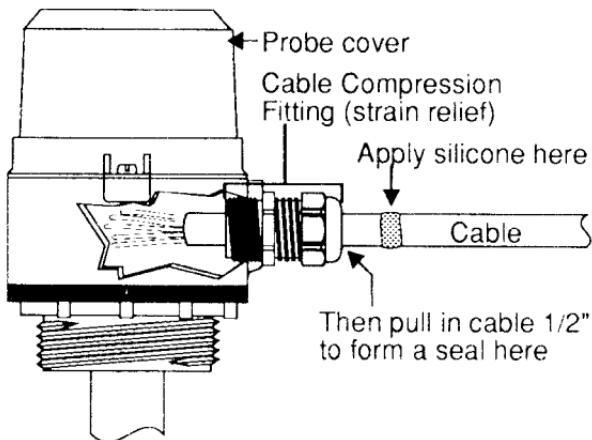

Figure 4.5 Installing A Cable Compression Fitting
**Note:** A cable compression fitting, supplied in the Scully Installation Kit, should be used wherever the cable run enters or leaves the On-Board Control Unit or a probe holder. See Figure 4.5. If you do not use the supplied fittings, you must use a quality 1/2" NPT, water tight strain relief, properly sized for the cable O.D.